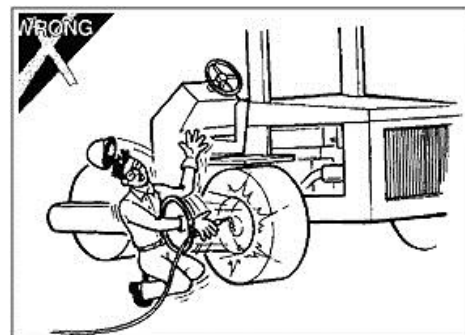

Figure. 1-22
- Do not open air-drainage valve with your own hands for tire pressure releasing (as shown in Figure. 1-22). Gradually adjust the tire pressure with an inflation needle.